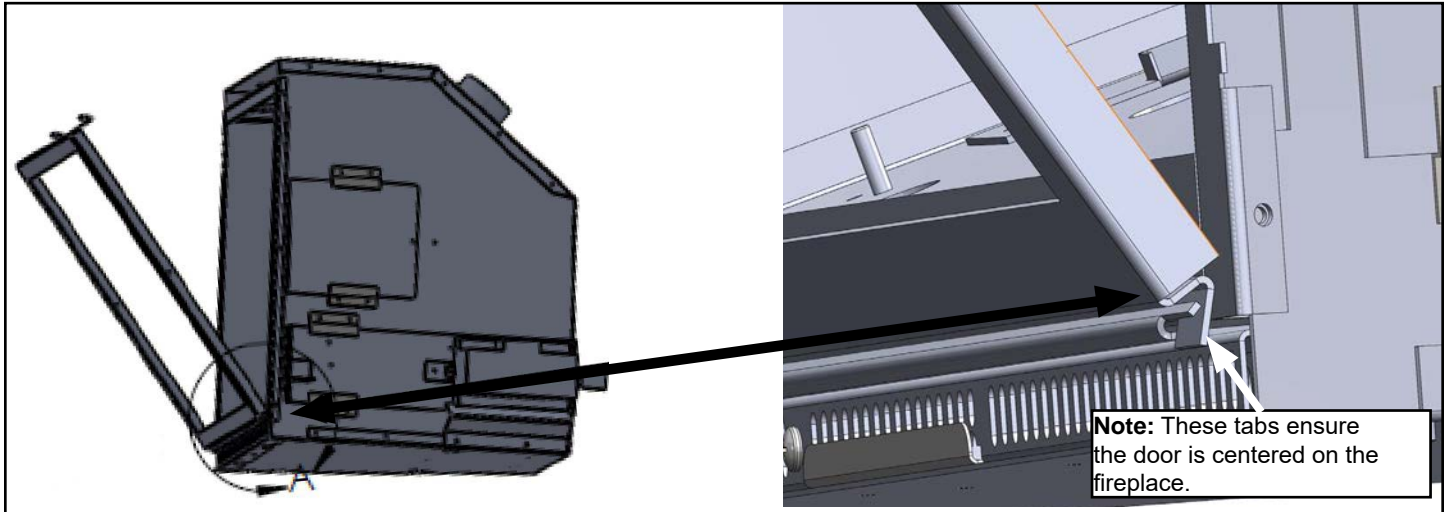

Figure 15.0.01:
Step 1: Hold the glass door at an angle so that the edge on the bottom of the door engages with the lower spring relief. See **Figure 15.0.01**.